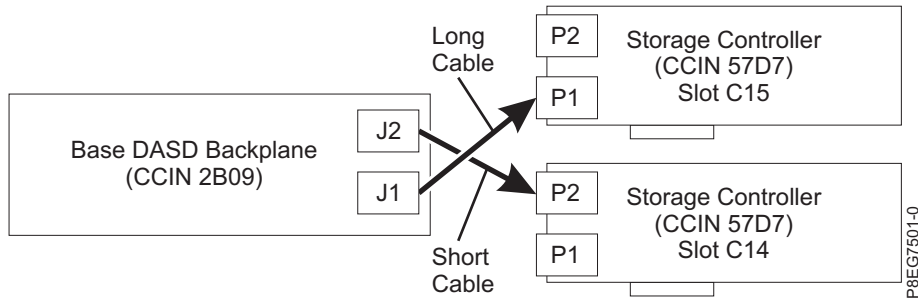

Figure 7. Reconnecting the SAS cable in a split disk configuration
- If you have two PCIe3 x8 SAS RAID internal adapters (CCIN 57D7) (split disk feature), the short SAS cable connects the upper disk drive backplane connector (J2) to the P2 connector on the adapter in slot P1-C14. The long SAS cable connects the lower disk drive backplane connector (J1) to the P1 connector on the adapter in slot P1-C15. See Figure 7 on page 8.